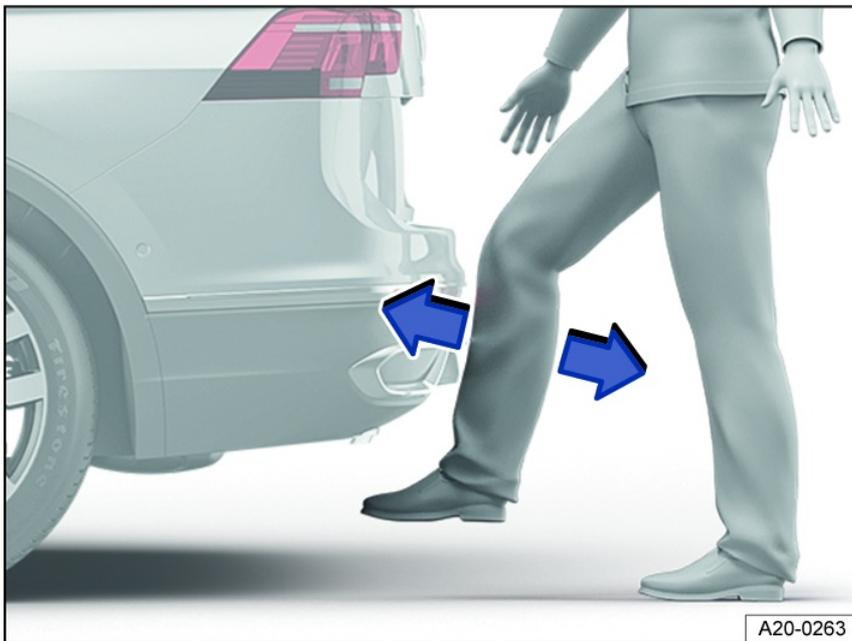

Fig. 63 General example of the trunk lid with sensor-controlled closing (Easy Close).
2. Quickly swing the lower part of your leg close to the bumper *fig. 63*.